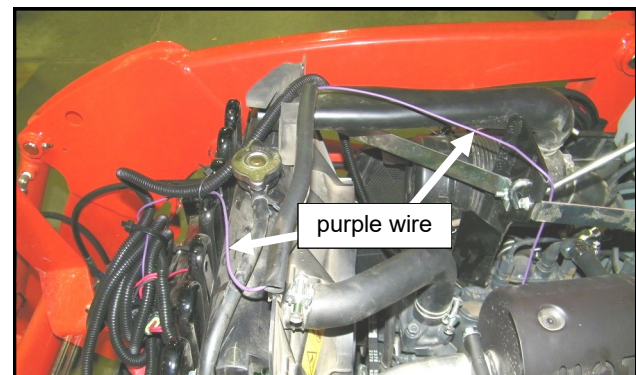

Fig. 10.5 (wire harness - left side of engine bay)
**10.5** Route the purple wire to the fuse block securing with wire ties so that it does not touch any sharp edges, hot exhaust components or moving components. See fig. 10.5.